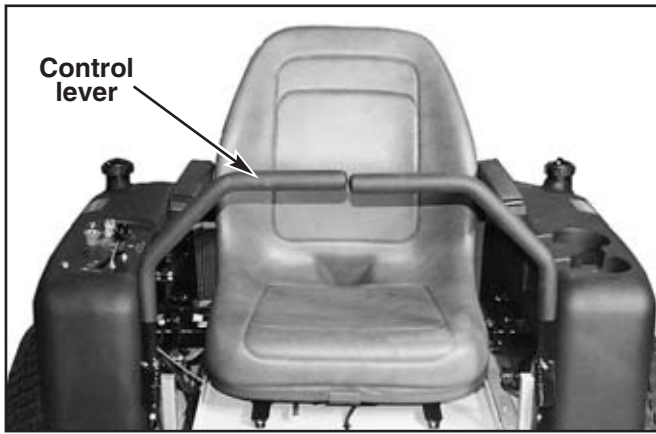

Figure 3-3
4. **Control levers (Fig. 3-3)** — these levers control the tractor's speed, direction, neutral lock, and park brake. Levers are used to steer, accelerate, decelerate and change direction. When the control levers are in the park brake position (3-4) the tractor will not move when the engine is on and drive pumps are operating.